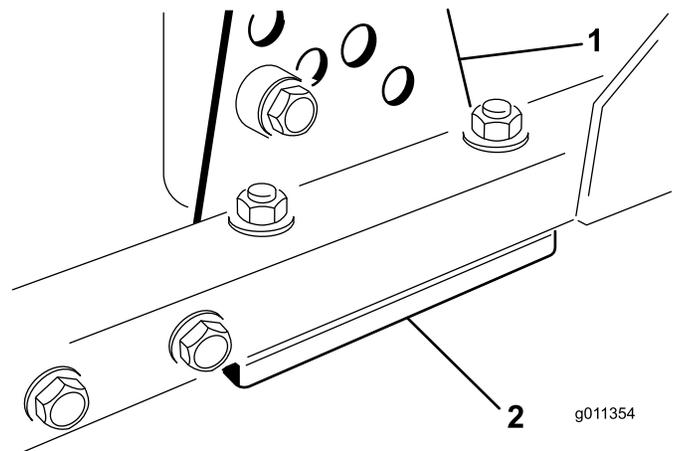

Figure 96
1. Remove the height-of-cut bracket, (front, left, or right) from the cutting-unit frame (Figure 96).
2. Adjust 1.5 mm (0.060 inch) shims and/or 0.7 mm (0.030 inch) shims between the cutting-unit frame and bracket to achieve the desired height setting (Figure 96).